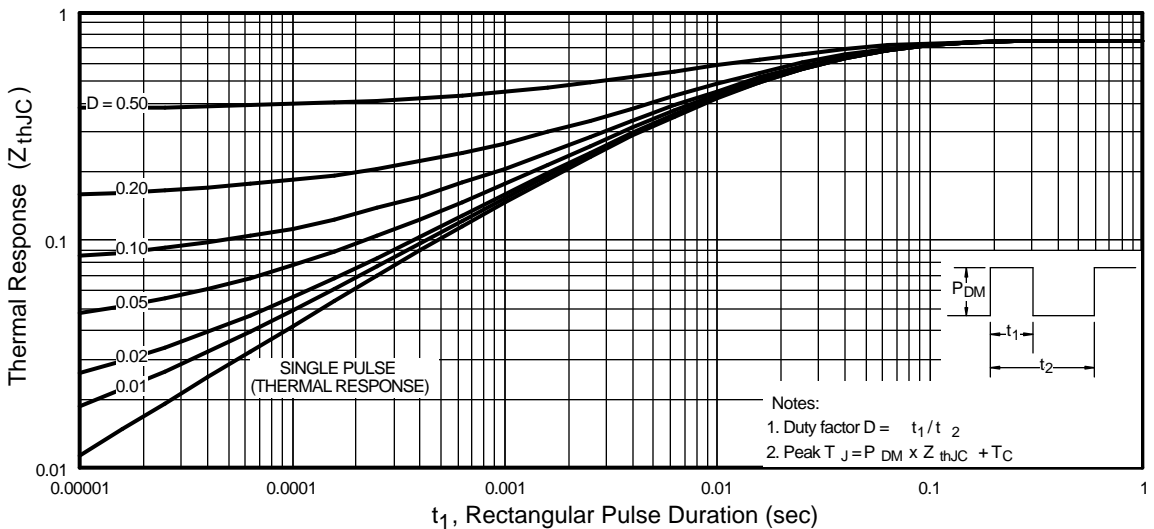

Fig 11. Maximum Effective Transient Thermal Impedance, Junction-to-Case
- ① Repetitive rating; pulse width limited by max. junction temperature. (See fig. 11)
- ② Starting $T_J = 25^\circ\text{C}$, $L = 190\mu H$